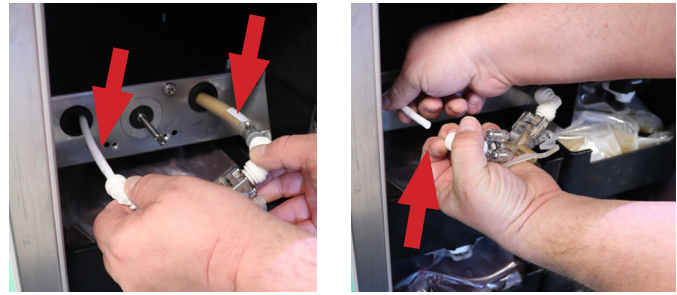

FIGURE 5 - Disconnect water and product lines
- E. Gently pull valve assembly forward to access the water and product lines. (See Figure 5)
- F. Gently disconnect water and product lines from assembly. (See Figure 5)